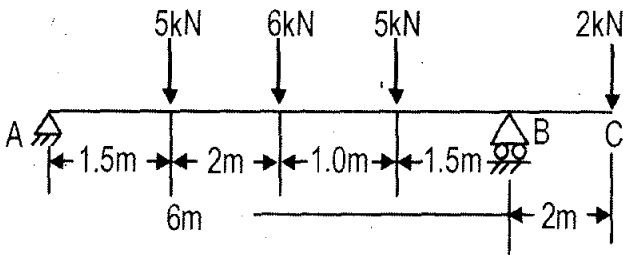

Figure 2
- (b) A beam AC is loaded as shown in figure 2. Draw B.M.D. and S.F.D. for the beam : [7]